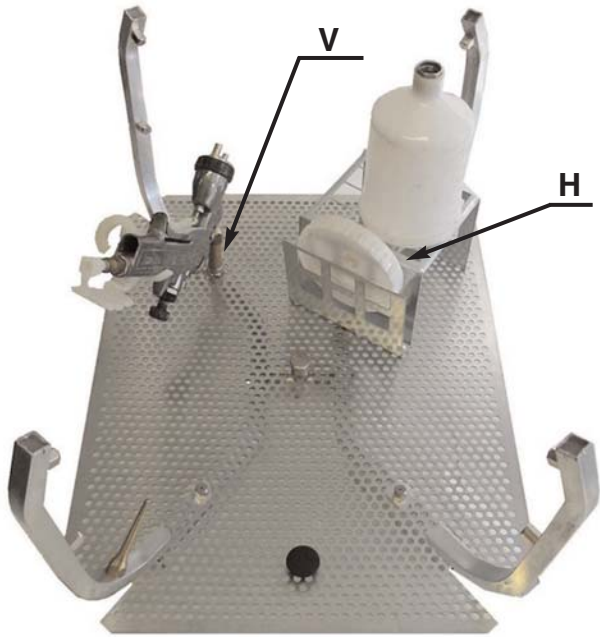

Figure 3A
- Spray guns, covers and containers to be washed **must only be** inserted in the nozzles and in the positions shown in figures 3A - 3B.
5.3 WASHING ONE GRAVITY-FLOW GUN (See fig. 3A).